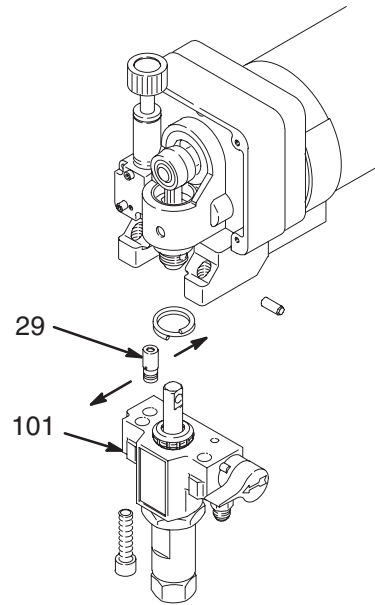

Fig. 18
**NOTE:** See Fig. 18 for this procedure.
2. Use a pull-twist motion to remove the transducer (29) from the pump manifold (101).
6. Align the holes in the transducer as shown by the arrows in Fig. 18.